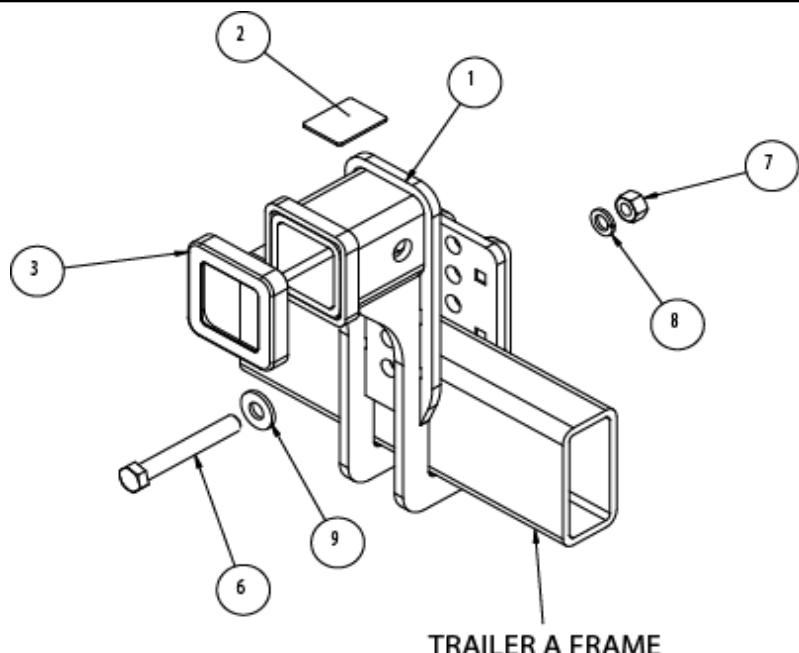

Figure 1 – Layout Diagram
1. Fit the holder from underneath the trailer A Frame as shown in Figure 1.